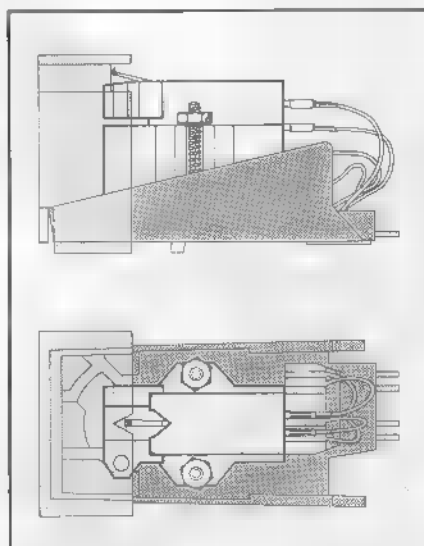

Fig. 16
1. To mount the cartridge, detach the cartridge holder (4) from the tonearm by pressing the tonearm lift backward (5), while holding the cartridge holder with your hand to prevent its falling down when the lock is released.
2. Using the hardware provided, mount the cartridge on the cartridge holder. Use the gauge to make sure that the cartridge is mounted in the geometrically proper place in the cartridge holder (fig. 16).